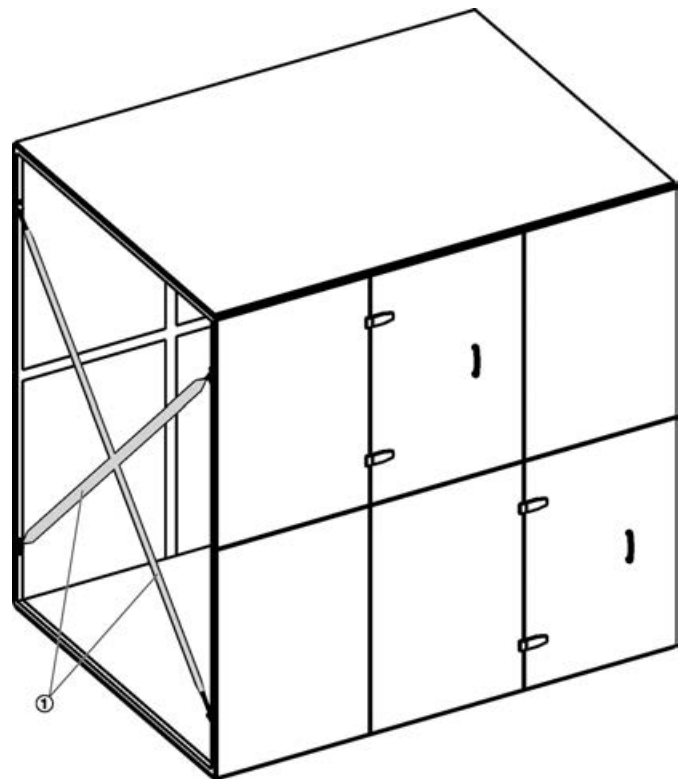

Fig. 9: Transport straps
- 1 ▶ Cut the transport straps (Fig. 9 /1) and remove them completely.